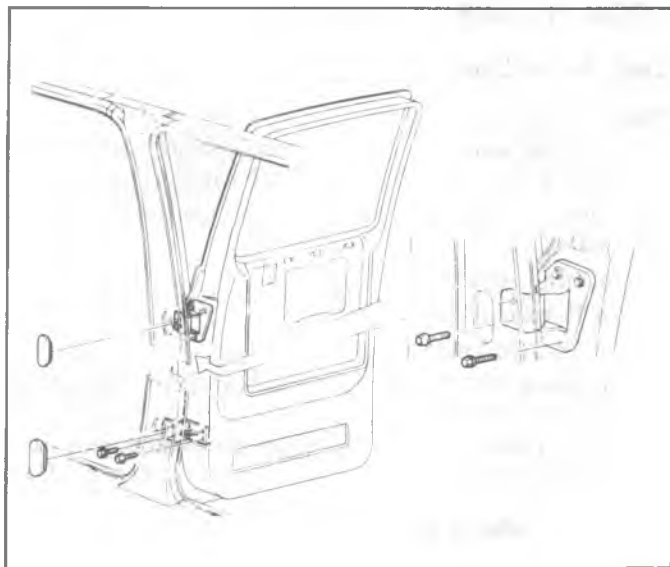

Fig. 2D-42--Rear Door Hinge Location
3. Remove screws retaining door trim pad, and remove trim pad. See figure 2D-43.